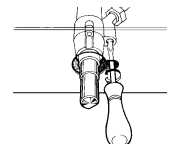

fig.14
- Remove the knob and turn the adjusting screw, situated to the right of the tap (fig. 14) until you obtain a regular small flame, using a screwdriver (loosening the screw increases the height of the flame, tightening decreases it).